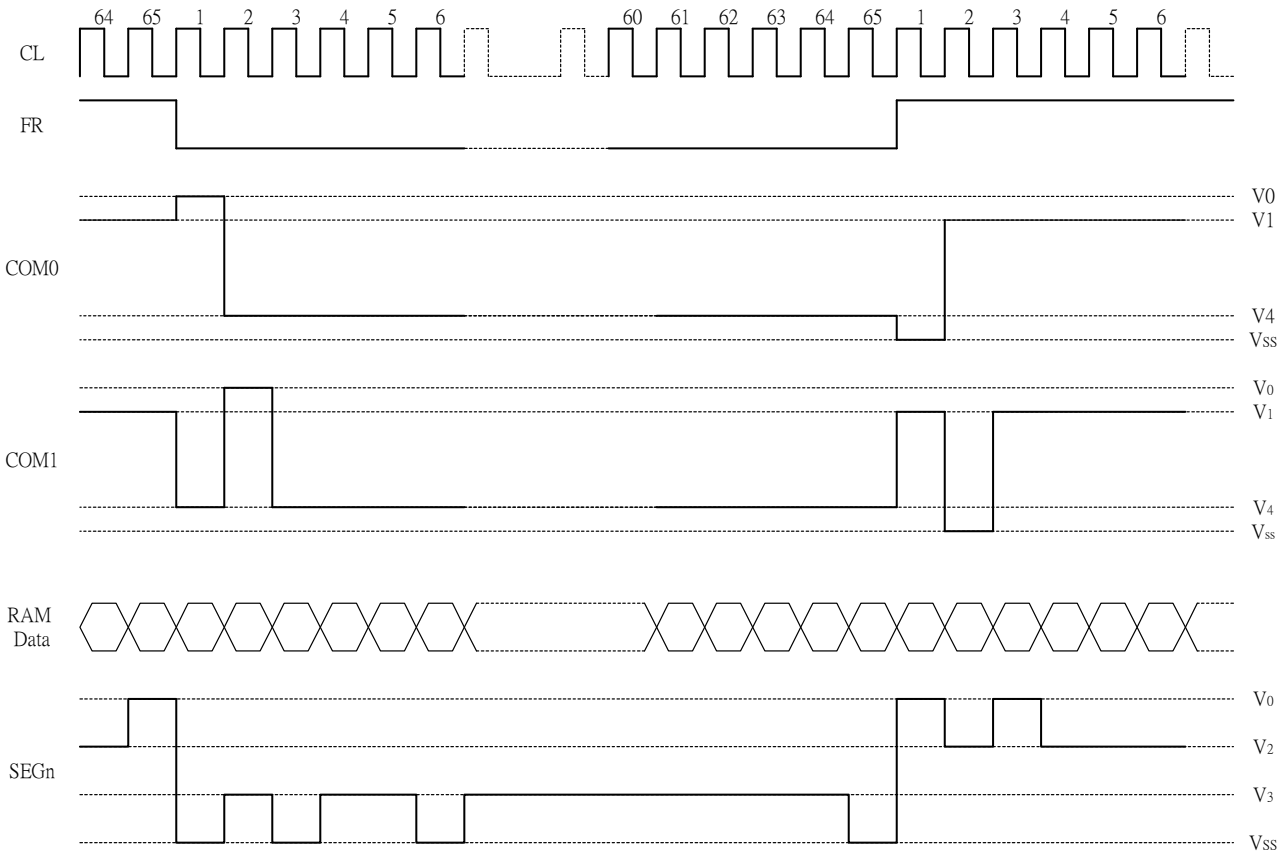

Figure 5
RAM is accessed asynchronously during liquid crystal display, there is absolutely no adverse effect (such as flickering) on the display. Moreover, the display timing generator circuit generates the common timing and the liquid crystal alternating current signal (FR) from the display clock. It generates a drive wave form using a 2 frame alternating current drive method, as is shown in Figure 5, for the liquid crystal drive circuit.